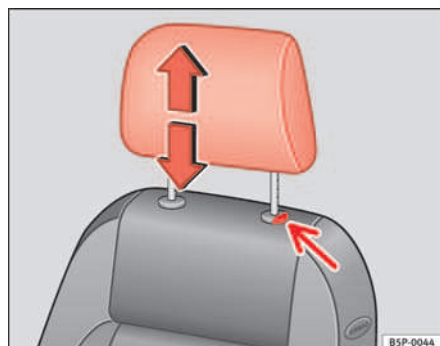

Fig. 93 Adjusting and removing the head restraints
- Press the button ⇒ fig. 93 (arrow).